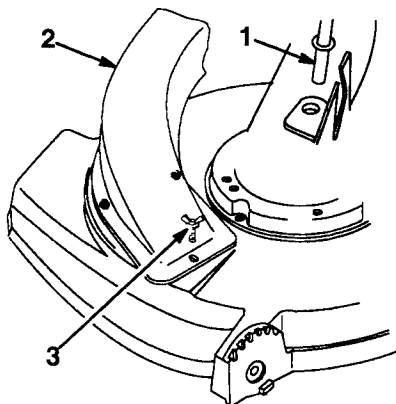

Figure 40
5. Insert chute support rod through hole in right side of deck (Fig. 40).